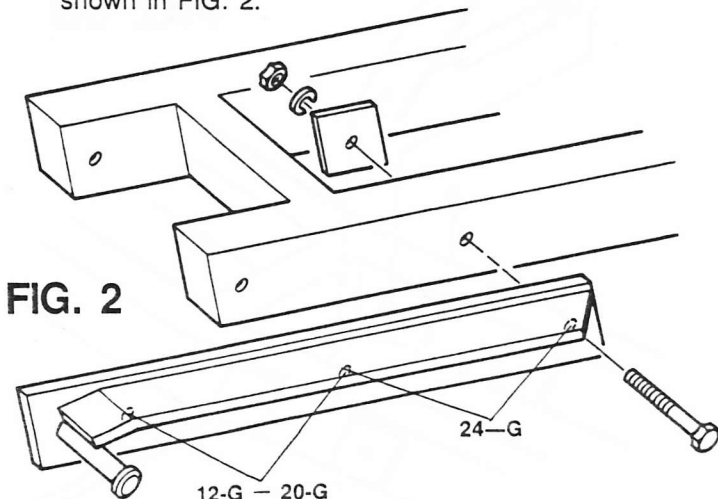

FIG. 2
In either case the extensions go on the outside of the sub-frame and are secured to the sub-frame using (2) $\frac{1}{2}$ —13 x 3 hex hd. capscrews, re-inforce plates, lockwashers, and nuts on both sides as shown in FIG. 2.